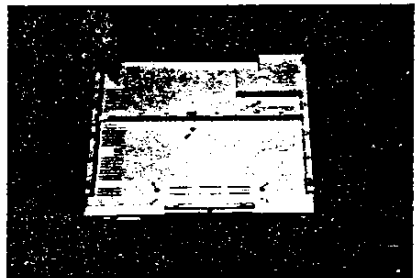

Fig. 3-11. Installing the Case Screws
3.5.5 Install the 5 self-tapping screws into the hollows of the bottom housing. See Fig. 3-11.